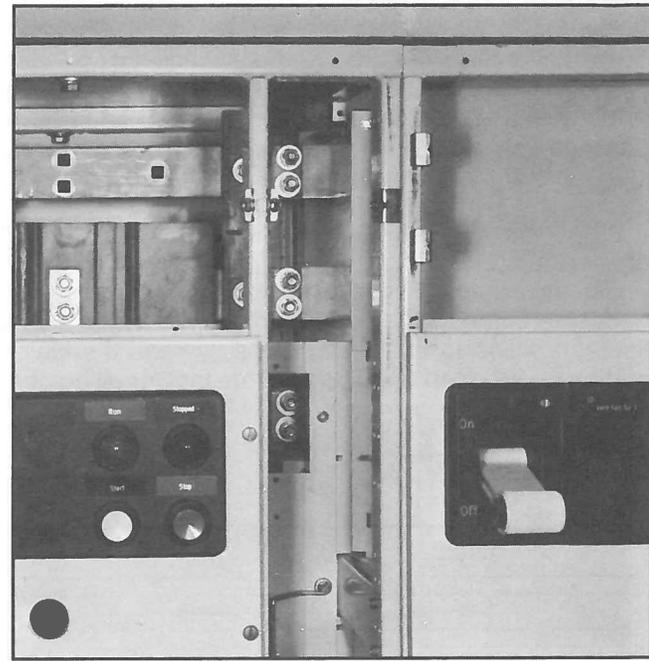
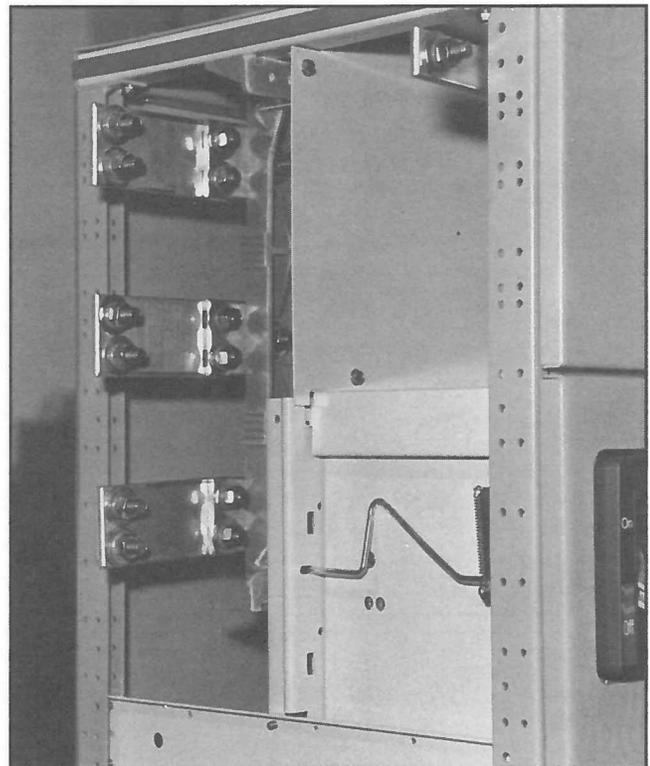

Fig. 5 Access to LH Splice Plate Connections
Fig. 4 Splice Plates Attached to RH Section
2. The horizontal bus splice plates and hardware will be shipped with the MCC attached to one end of shipping section. Refer to Figure 4. This method provides the most convenient access to the bolts, and eliminates the need to remove the horizontal bus barriers in that structure. Should the existing bus be oxidized, sand lightly with a fine aluminum oxide paper. **CAUTION** — Do not use emery cloth or any abrasive containing metal.
3. Remove the upper horizontal wireway door from the structure on the right side of the left hand (LH) section and remove the two-piece wireway barrier to provide access to the ends of the bus in that section.
7. Bolt the horizontal bus splice plates to the bus in the left hand structure, torquing all bus splice bolts to 275 pound-inches. See Figure 5.